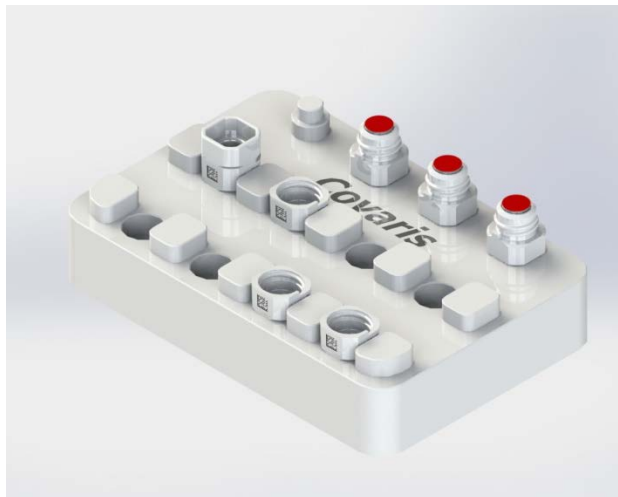

Figure 1. Prep Station with microTUBEs and Screw-Caps in use
6. Place up to 4 microTUBEs in the front row of the Prep Station (Figure 1).